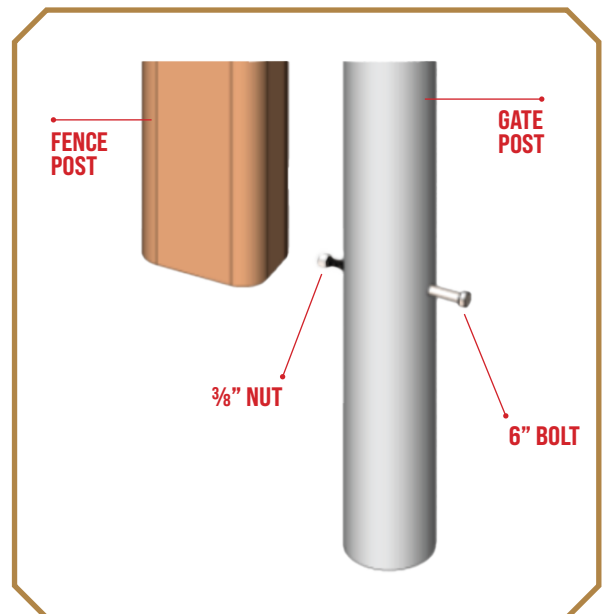

Figure 2
2. To prep the gate post, slide the 6" bolt through the pre-drilled hole to anchor the bottom of the heavy round gate post, then screw the 3/8" nut on to the bolt. (Figure 2)